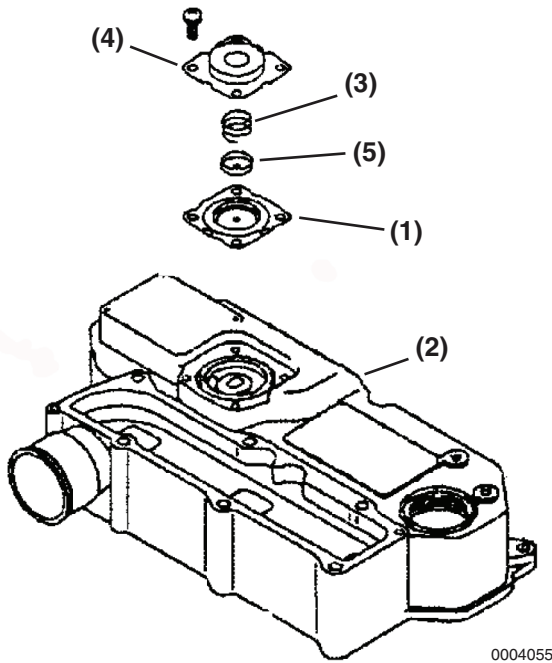

Figure 5-18
The non-turbo TNV engines use a crankcase breather system that has a spring-backed diaphragm (Figure 5-18, (1)) in the valve cover (Figure 5-18, (2)). When the crankcase pressure reaches a predetermined value, the diaphragm opens a passage that allows crankcase fumes to be routed to the intake manifold.
2. Remove the diaphragm cover, spring, diaphragm plate (Figure 5-18, (5)) and diaphragm.
To inspect the diaphragm and spring (Figure 5-18, (3)):
1. Remove the bolts retaining the diaphragm cover (Figure 5-18, (4)).